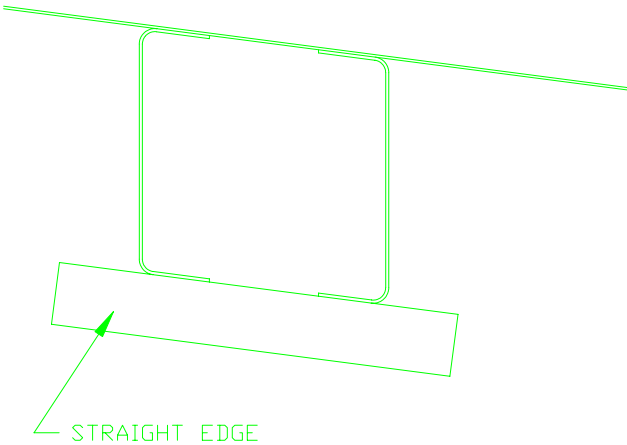

FIGURE 2
- 2) Bend the inside flanges of bulkhead "B" and "C" so a straight edge lies flat on the flanges. Figure 2.
24) Cut out a slot in each root rib in front of the station 5 bulkhead as in Figure 2.